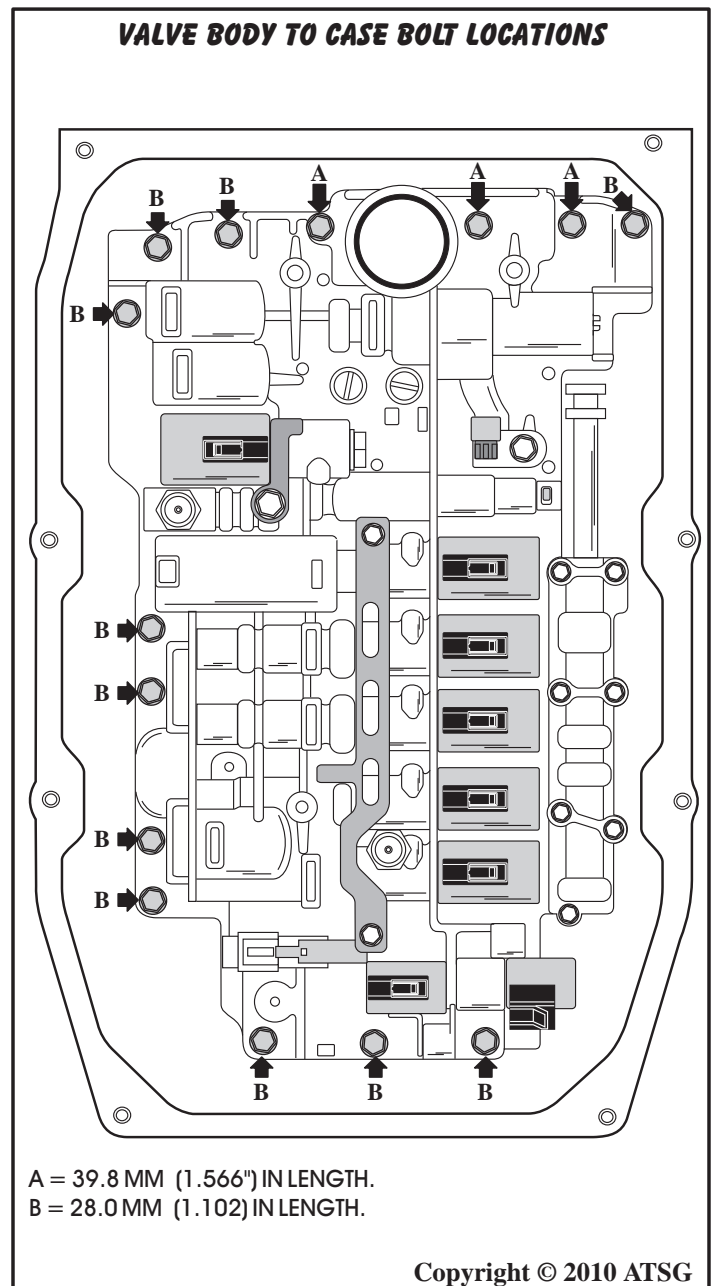

Figure 50
25. Remove only the 14 valve body to case retaining bolts from the locations shown in Figure 50.